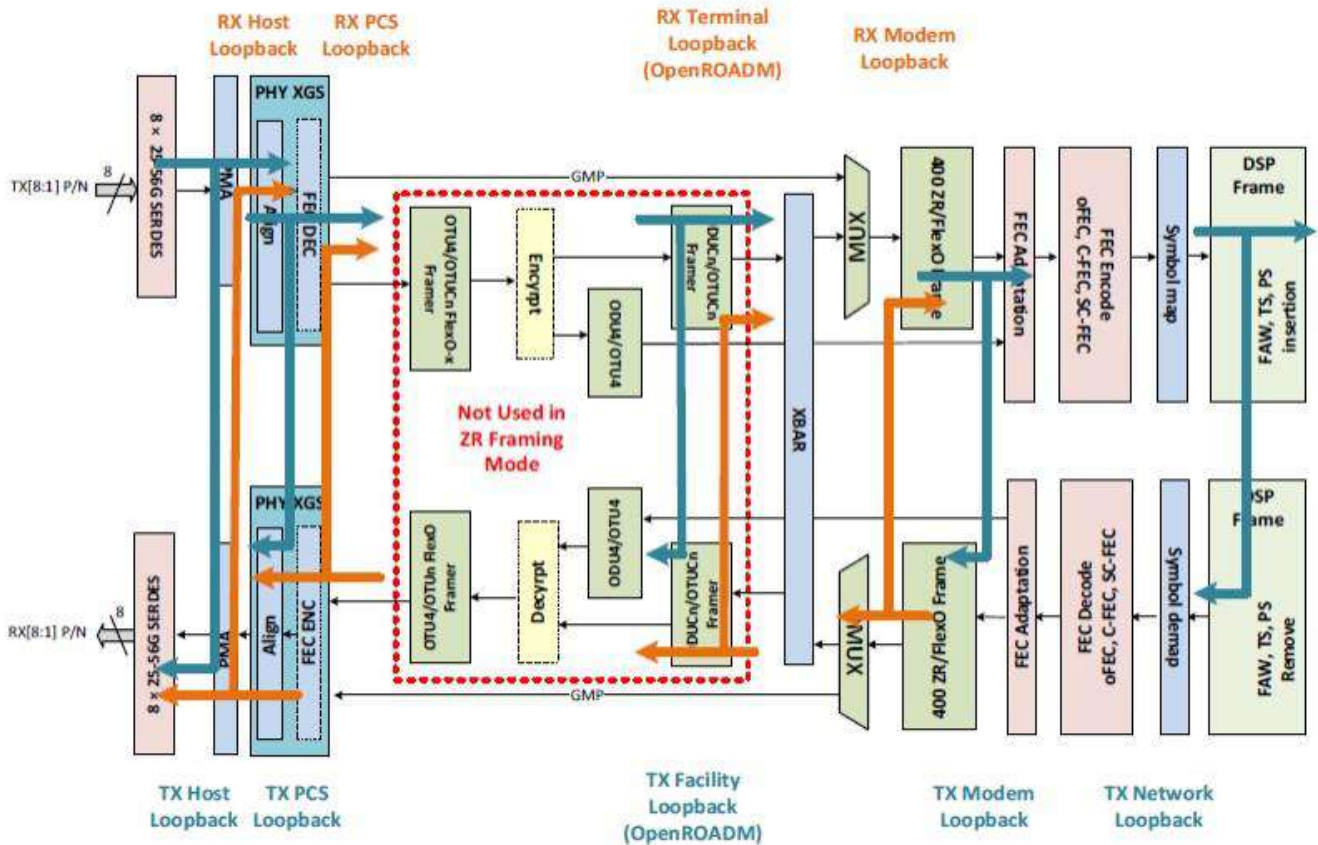

Figure 1: Loopback types
- Support various loopbacks as given in Figure 1, where Rx terminal loopback & Tx facility loopback will be supported in [GL2].